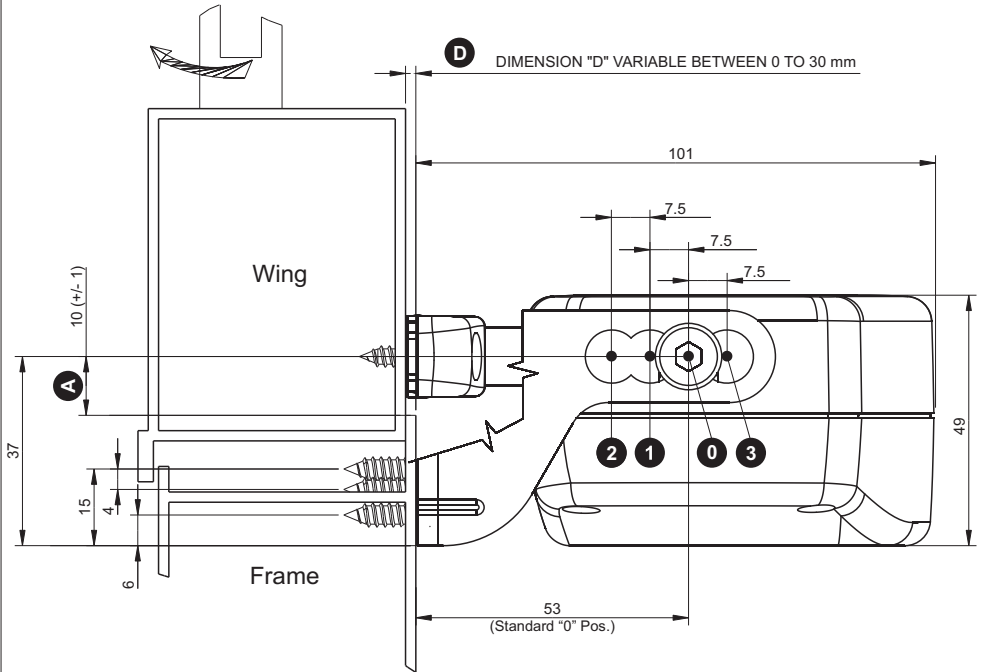

Fig. 7b Dimensions in mm
- 5) **Fig. 30-** Align the bottom hung bracket with the centre line of the window using as reference the central hole of the fastening screws and position the bottom hung bracket at **E** (**see Fig. 7b**), then mark the drilling points;
- 7) **Fig.33-** Tighten with the two standard supplied screws (**Ref. 1**) the actuator on the bracket connecting it to the window frame in the position "0" (**see Fig. 7b**) and unscrew the chain adjustment end screw;
- 8) **Fig. 34-** Select the position of the actuator with reference to the bracket connecting it to the window frame (**see Fig. 7b**) and connect the chain end to the bottom hung bracket;